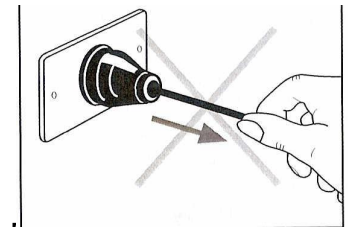

Fig. 2
- Do not tug at the lead or at the appliance to pull the plug out from the socket (**Fig. 2**)